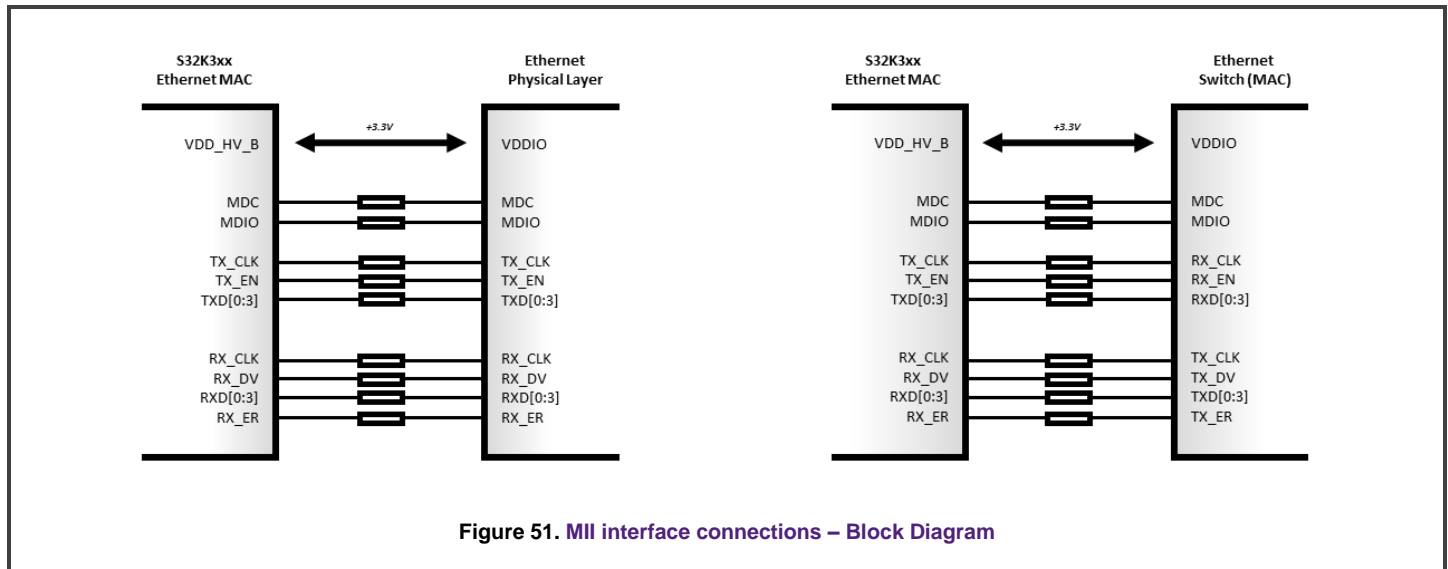

Figure 51. MII interface connections – Block Diagram
**MIl signaling:** Figure 51 shows the PHY-MAC and MAC-MAC connections in an MII interface. Data is exchanged via 4-bit wide data nibbles TXD[3:0] and RXD[3:0]. Data transmission is synchronous with the transmit (TX\_CLK) and receive (RX\_CLK) clocks. For the